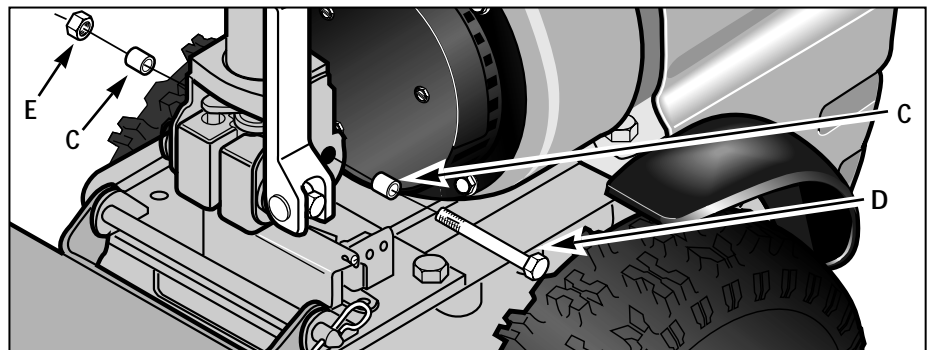

Fig. 2-3: Install hardware to secure lower handlebar section to the base.
1. Insert one bushing (C, Fig. 2-3) on the end of the 3-1/4" long screw (D), and slide the screw through the base of the lower handlebar section. Put the other bushing (C) on the screw on the other side, sliding it on all the way.
2. Use 9/16" wrenches to install the 3/8" locknut (E) on the screw (D). Tighten hardware securely. NOTE: Do not tighten the other long screw next to this hardware – it is factory tightened. See Fig. 2-3.
4. Lift up the handlebar locking lever and swivel the handlebar toward the engine starter rope to test hardware tightness at the base of the handlebar. If the handlebar seems secure and swivels smoothly, the hardware is tightened properly. Tighten the front bolt (D, Fig. 2-3) more if the handlebar doesn't seem secure enough. Loosen the front bolt (D) a little if the handlebar is hard to swivel. **IMPORTANT: This bolt must be tightened properly for the handlebar to swivel properly. The other long bolt next to it should not be tightened now, but may at some time in the future require tightening which is explained in the Maintenance Section.**